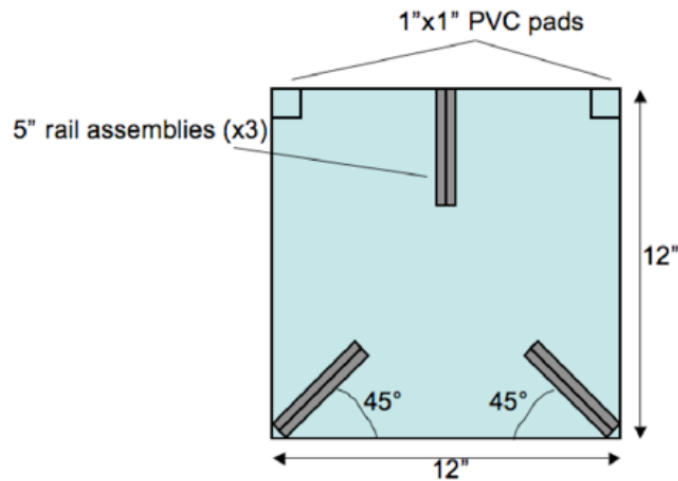

Fig. 2 Basic geometry of competition truss and performance metric
- 1) The only contact the structure may have with its surroundings is at distinct plates on the provided base plates as detailed in Figure 2 below. The structure must have either 3 points of contact (three joints on three rails) or 4 points of contact (two joints on two rails and two joints on two pads).